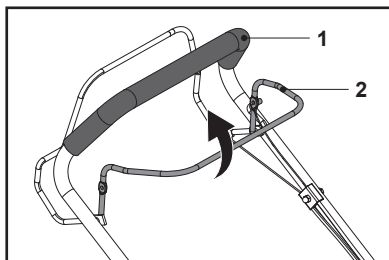

Fig. 11
1. Pull back the brake lever (2) and hold it against the grip handle (1) when starting the engine. Keep it squeezed during operation (Fig. 11).
2. Release the brake lever (2) to stop the engine.
1. Pull back the brake lever (2) and hold it against the grip handle (1) (Fig. 11).